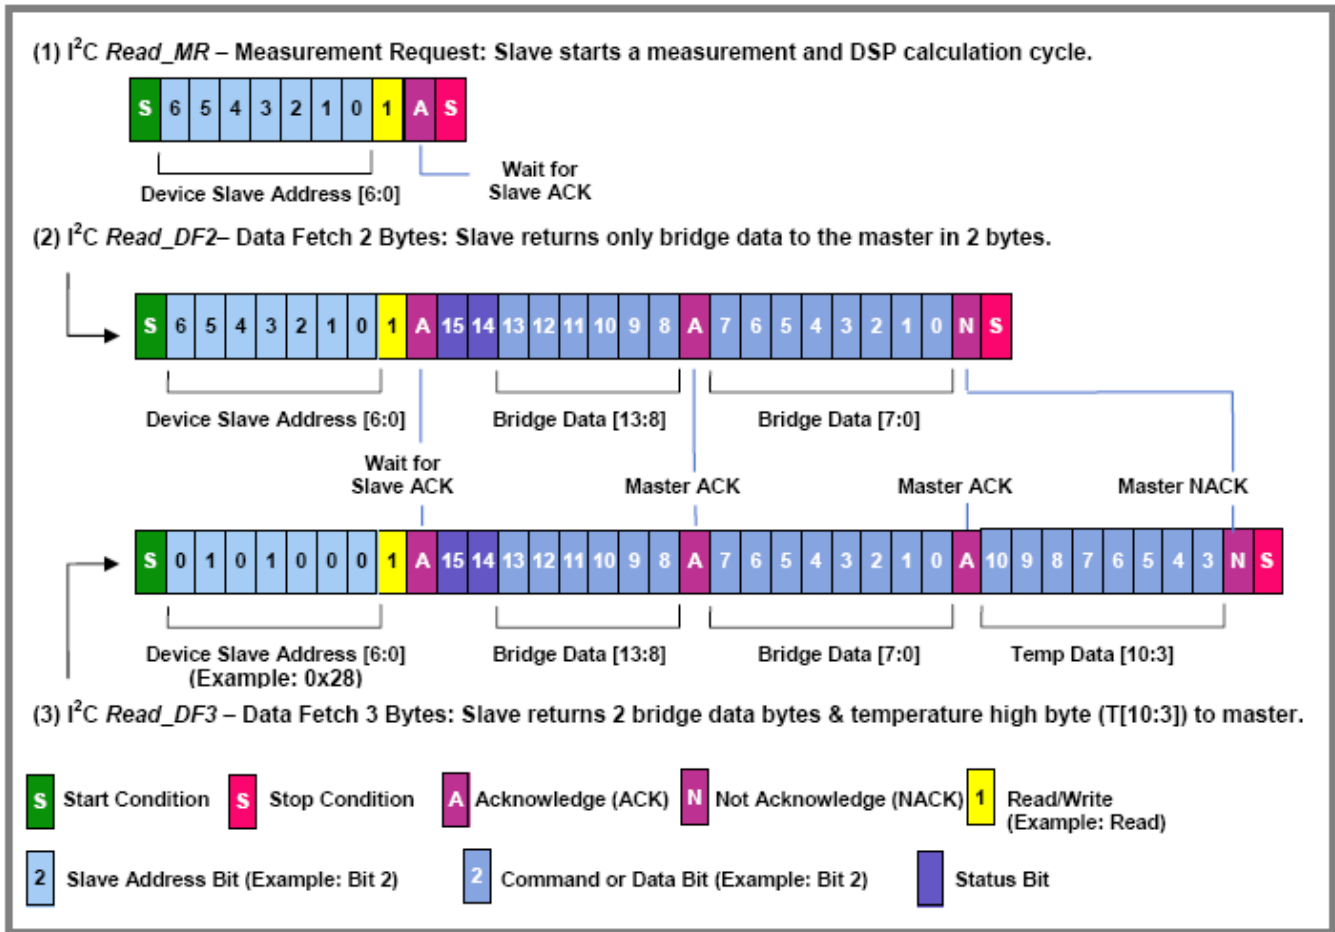

Figure 1.6 – I2C Measurement Packet Reads
The I²C master command starts with the 7bit slave address with the 8th bit =1 (READ).The sensor as the slave sends an acknowledge (ACK) indicating success. The sensor has four I²C read commands: Read_MR, Read_DF2, Read_DF3, and Read_DF4. Figure 1.6 shows the structure of the measurement packet for three of the four I²C read commands, which are explained in sections 1.6.1 and 1.6.2
The Read_MR (see example 1 in Figure 1.6) communication contains only the slave address and the READ bit(1) sent by the master. After the sensor responds with the slave ACK, the master must create a stop condition. This is only used in Sleep Mode (see section 3.1.2) to wake up the device and start a complete measurement cycle (including the special measurements) followed by the DSP calculations and writing the results to the digital output register.
For Data Fetch commands, the number of data bytes returned by the RBiCiLite™ is determined by when the master sends the NACK and stop condition. For the Read_DF3 data fetch command (Data Fetch 3 Bytes; see example 3 in Figure 1.6), the sensor returns three bytes in response to the master sending the slave address and the READ bit (1): two bytes of bridge data with the two status bits as the MSBs and then 1 byte of temperature data (8-bit accuracy). After receiving the required number of data bytes, the master sends the NACK and stop condition to terminate the read operation. For the Read_DF4 command, the master delays sending the NACK and continues reading an additional final byte to acquire the full corrected 11-bit temperature measurement. In this case, the last 5 bits of the final byte of the packet are undetermined and should be masked off in the application. The Read_DF2 command is used if corrected temperature is not required. The master terminates the READ operation after the two bytes of bridge data (see example 2 in Figure 1.6).